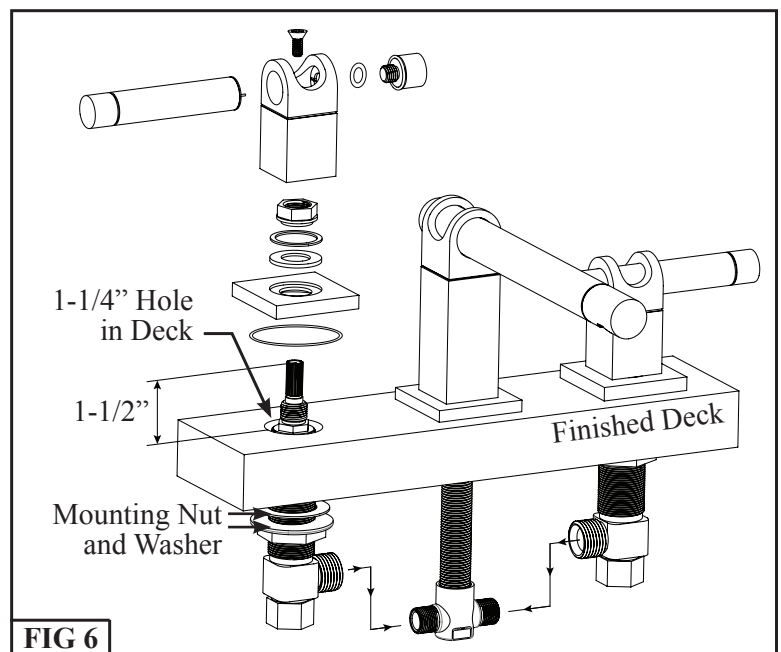

FIG 6
Step 5: Connect Valves to the 3-Way Tee. See **FIG 6**.